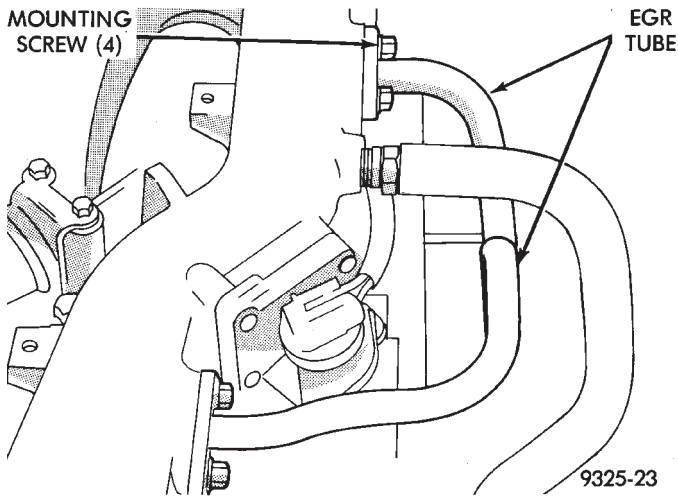

Fig. 14 EGR Tube Upper Mounting Screws
- (2) Disconnect electrical connector from solenoid.
- (3) Slide transducer up and out of mounting bracket.
- (4) Loosen, but do not remove, the EGR tube to intake manifold screws (Fig. 14).
(3) Remove EGR tube to intake manifold plenum screws (Fig. 14).
(4) Remove EGR tube. Discard gaskets.
(5) Clean gasket surfaces.